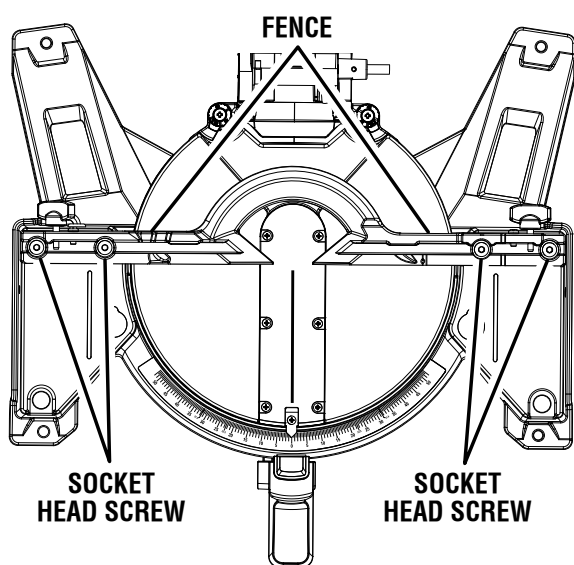

Fig. 18
- Using the supplied blade hex wrench, loosen the socket head screws that secure the fence to the miter table. See figure 18.